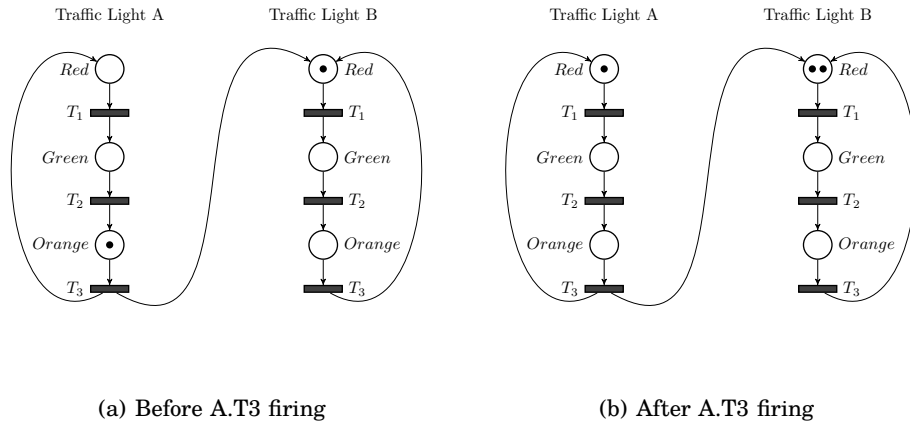

Figure 5 Illustration of the unboundedness of the suggested solution.
a. The suggested solution is indeed unbounded. Every time traffic light A fire transition T3 a new token will appear in B.Red, even though it might already have one there. See Fig. 5.